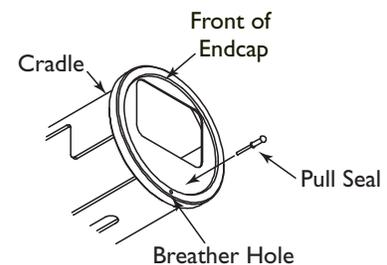

Figure 13 Inserting the Pull Seal
3. Insert the *long end* of the pull seal into the breather hole starting from the front side of the endcap (see **Figure 13**).